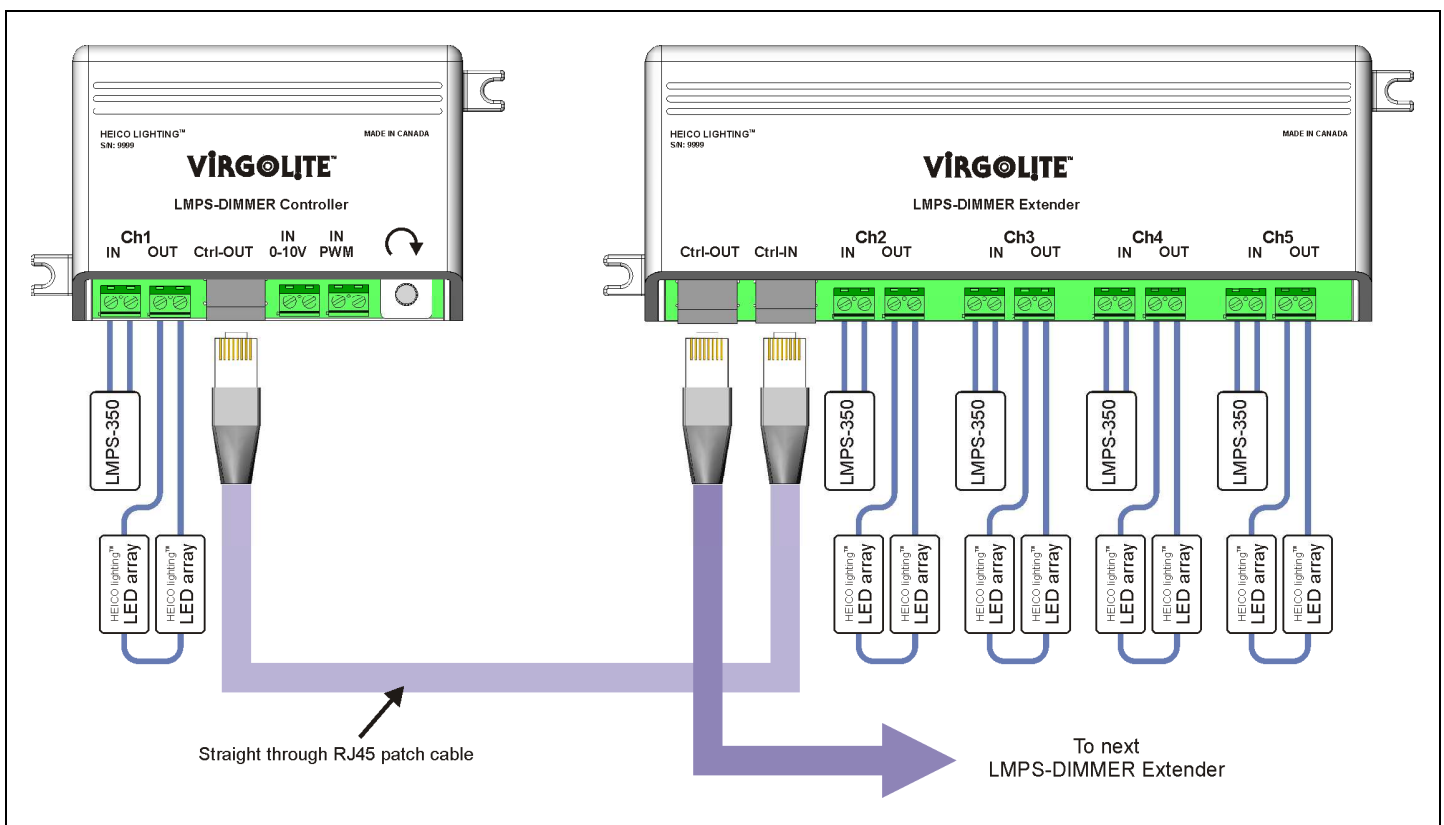

Figure 1: Electrical connection (manual dimming connections shown)
Extender: Powered by the Class 2 LMPS-350, the Extender stands between up to four (4) LMPS-350 and up to four (4) loops of HEICO lighting™ compatible LED arrays; additional Extenders can be daisy chained together. The Extender replicates the lighting pattern of the Controller to other channels; each Extender provides four (4) additional channels. Additional Extenders can be daisy chained with a RJ45 patch cable, as shown in the Installation diagram (figure 1).
- Use a RJ45 to RJ45 straight through cable to interconnect the controller to the extender (figure 1). Category 5 networking cable is the most common cable to use for this purpose.